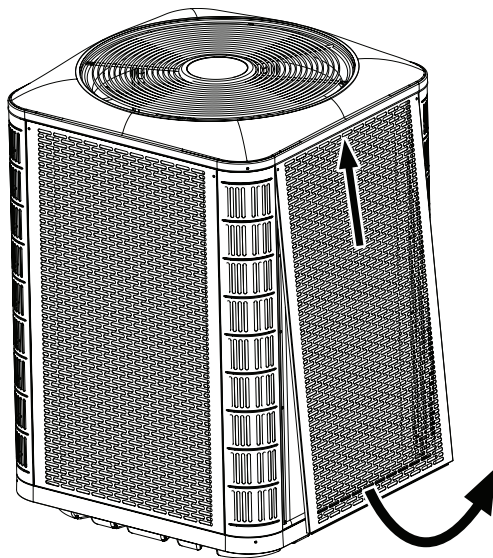
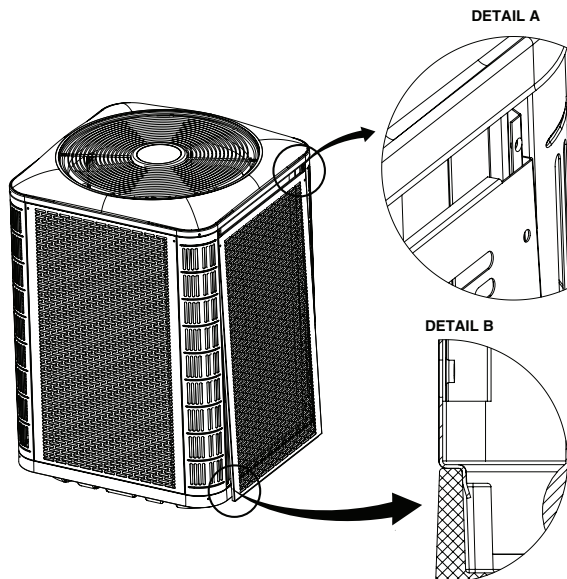

Figure 3. Panel Removal
Figure 4. Panel Installation
- To access the outdoor coil on units equipped with louvered panels, refer to Figure 3, \(page 8\) for panel removal and Figure 4, \(page 8\) for panel installation.
2. Slide the panel up towards the top pan in order to clear the bottom flange from the base pan. See Figure 3.
1. Insert the top corners of side panel flanges into the corner post channels as shown in Detail A in Figure 4.